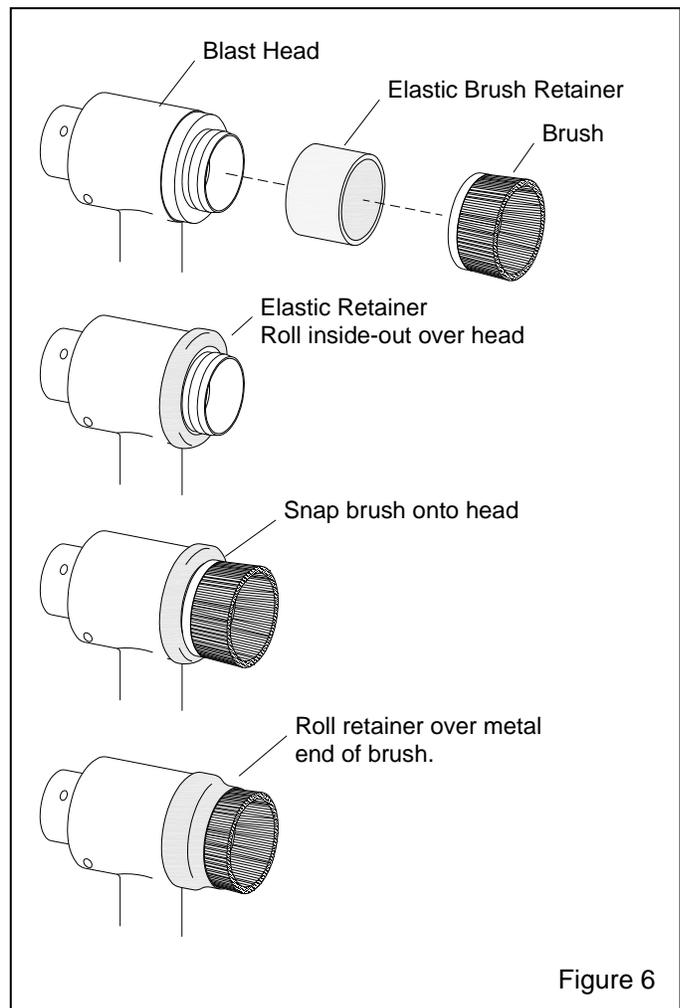

Figure 6
3.4 Select Brush and Attach to Head, Figure 6
3.4.2.3 Roll the elastic over the end of the brush to secure, as shown in Figure 6.